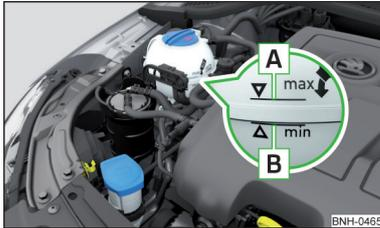

Fig. 121
The description of the coolant is shown in the coolant expansion reservoir » Fig. 121 on page 143.
- Do not fill the coolant above the mark  » Fig. 121 on page 143.
Coolant expansion reservoir » Fig. 121
► Check the coolant level in the coolant expansion tank » Fig. 121.
If the engine is warm, the test result may be inaccurate. The level can also be above the mark **A** » Fig. 121.